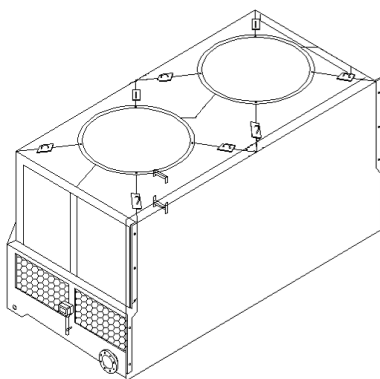
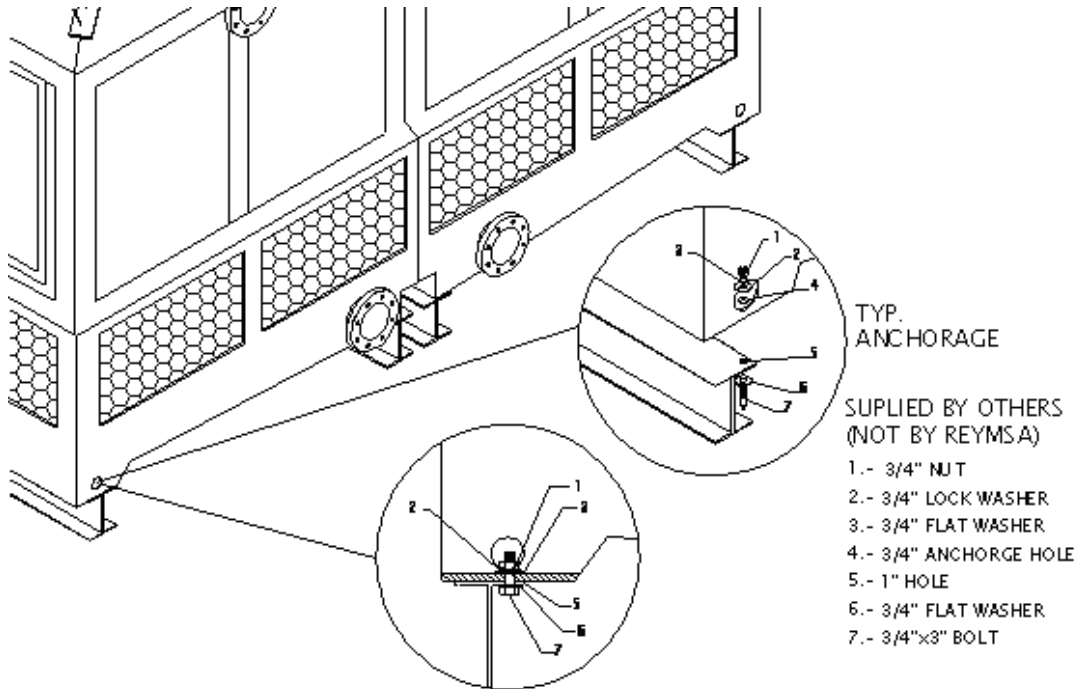
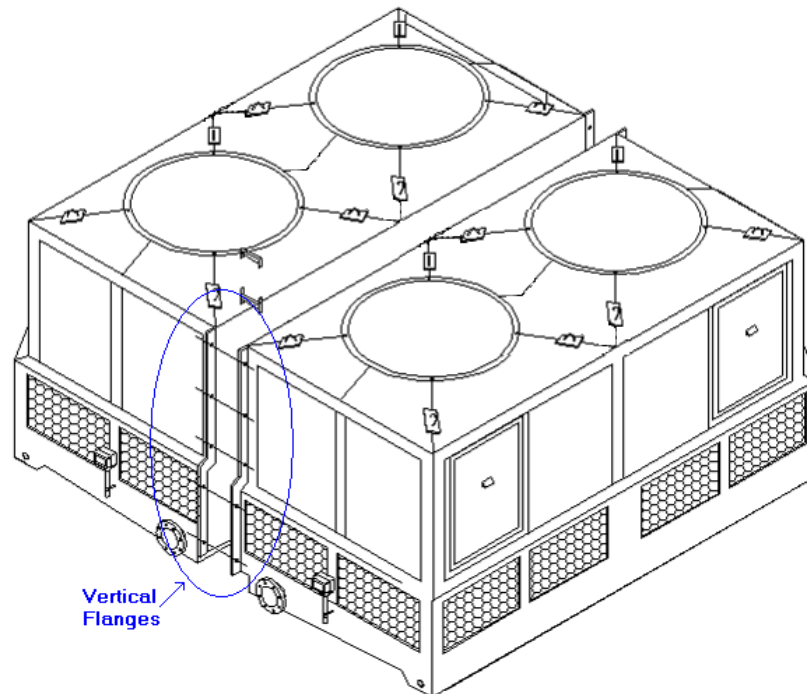

Figure A-17: Tower Section 1 Installation for a Quadruple Fan Tower
Figure A-18: Installation - Typical Anchorage for Quadruple Fan Tower
Figure A-19: Tower Sections 1 & 2 Installation for a Quadruple Fan Tower
- E. Place **Tower Section 1** (see Figure A-17) on top of the structural base, making sure that the anchorage holes on the bottom of the tower are aligned with the perforations on the base. Bolt it down and secure it with stainless steel nut and bolt sets (*supplied by others*, see Figure A-18)
- F. Place **Tower Section 2** on top of structural base, and then proceeds to bolt together the vertical flanges of Sections 1 & 2; use first the galvanized bolts and nuts to join sections (supplied by REYMSA). Then replace the galvanized bolts with the stainless steel nut and bolt sets supplied by REYMSA (see Figure A-19). Then bolt down and secure Tower Section 2 to the structural base with stainless steel nut and bolt sets (supplied by others, see Figure A-18)